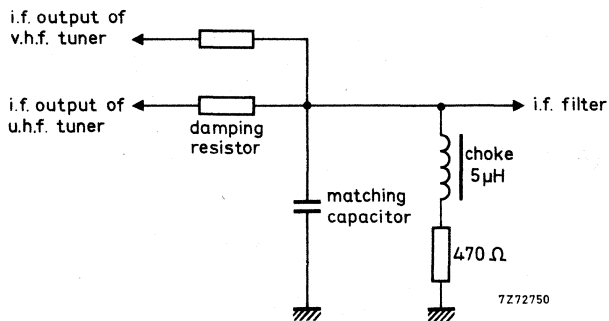

Fig. 9.
The tuner needs a d.c. path from the i.f. output terminal (10) to earth, preferably via a choke of approx.  $5 \mu\text{H}$  outside the tuner (Fig. 9). Where the tuner is used in combination with a v.h.f. tuner, this choke can be common for both tuners; a resistor in series with the choke can inhibit the i.f. output circuit of the switched-off tuner. For damping the i.f. output circuit and matching the i.f. output impedance of the tuner to the receiver i.f. amplifier, a series resistor and a parallel capacitor as shown in Fig. 9 should be used.